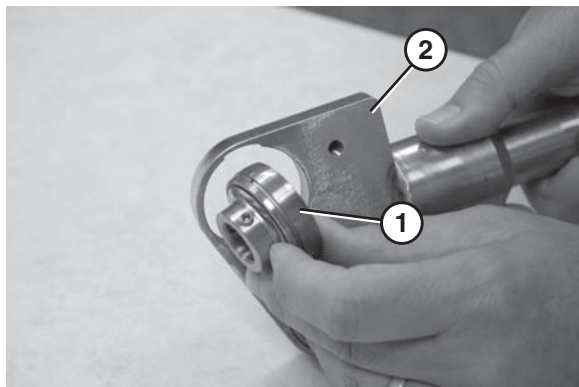

Figure 88
2. Remove the bearing (Figure 88, item 1) from the nose bar shaft assembly (Figure 88, item 2).